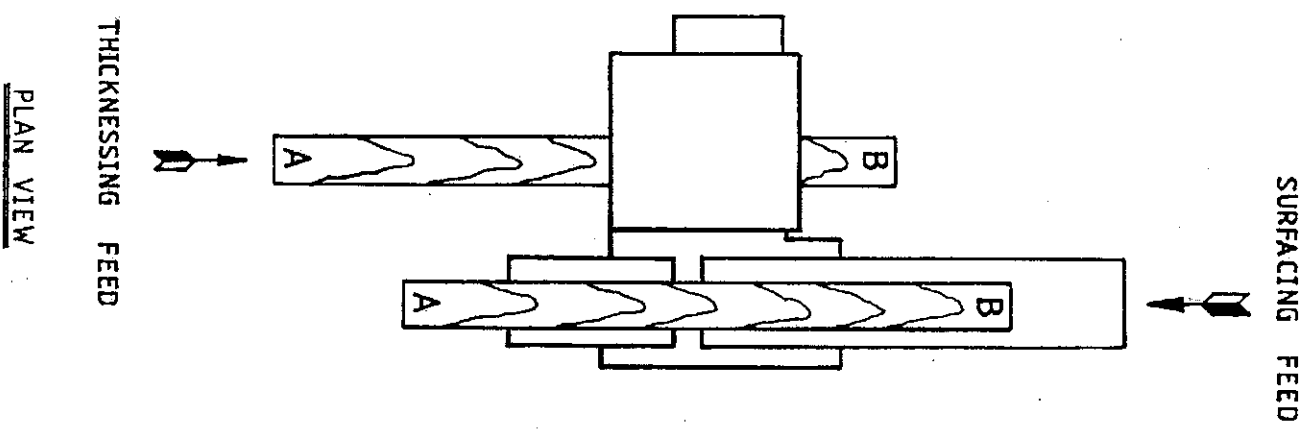

FIG. 21
- b) Retrieve timber held by power feed unit after surfacing operation and feed back into machine for thicknessing as shown in FIG. 21, ie, planed faces against fence and table.